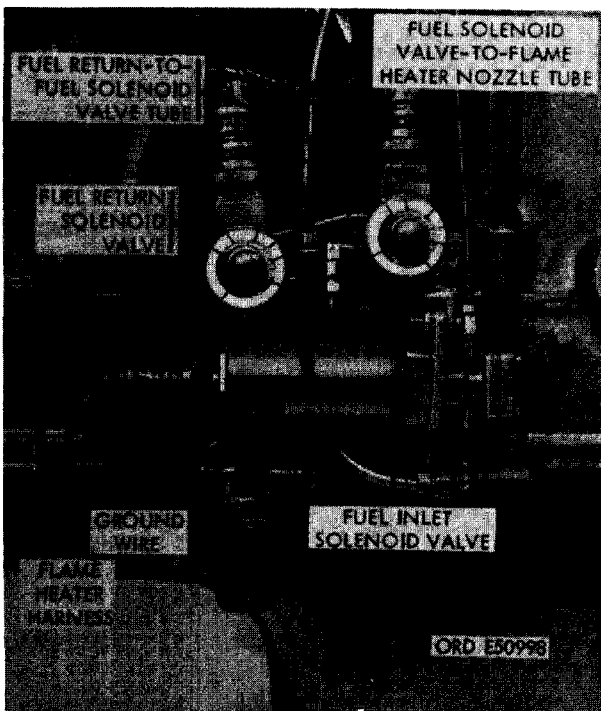

FIGURE 143. DISCONNECTING OR CONNECTING FLAME HEATER SOLENOID VALVE TUBES AND HARNESS.
- (1) Figure 143. (A) Disconnect harness ground wire by removing No. 10 plain nut and No. 10 lock washer from No. 10 x 1-3/4 machine screw. (B) Disconnect flame heater harness from receptacle connector at rear of flame heater fuel pump. (C) Disconnect flame heater harness from fuel return solenoid valve and fuel inlet solenoid valve. (D) Disconnect 1/8-inch tube nut from fuel pump outlet union. (E) Disconnect 1/4-inch tube nut on fuel return-to-fuel solenoid valve tube from 90 degree elbow in solenoid valve.
- b. Installation. Refer to figures 143 through 147 and reverse the sequence of illustrations and instructions to install the flame heater solenoid valves.